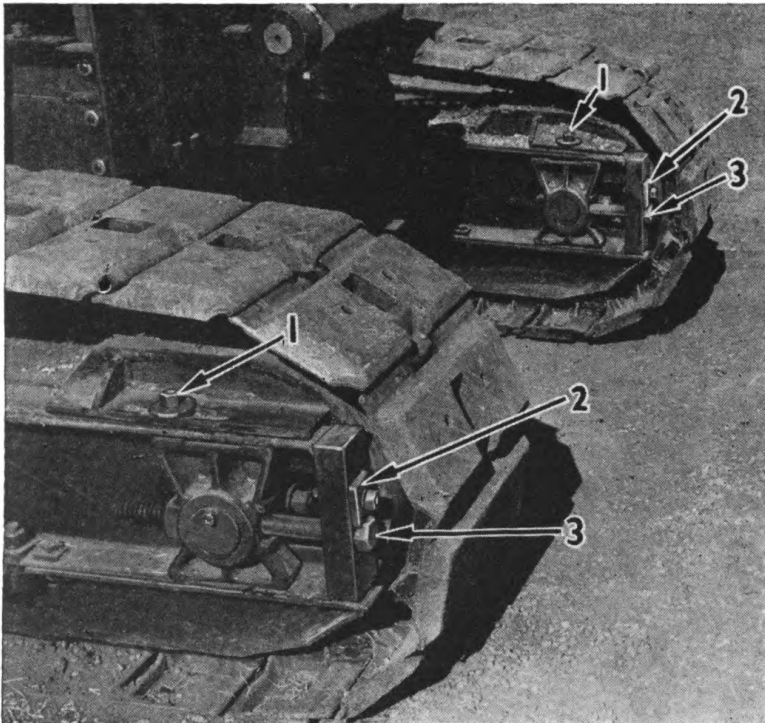

Figure 44
To do this, loosen the two bolts, (1), Figure 44, holding takeup guard plates and clean out slots so the guard plates can slide freely. Remove lock plates, (2) from head of takeup bolt. Takeup on bolts, (3) until there is no sag in the tread and the spring on the spring takeup idler begins to compress. The tread will then be in proper adjustment. It is important to takeup on each bolt an equal amount to insure proper alignment of idler wheel and crawler tread.